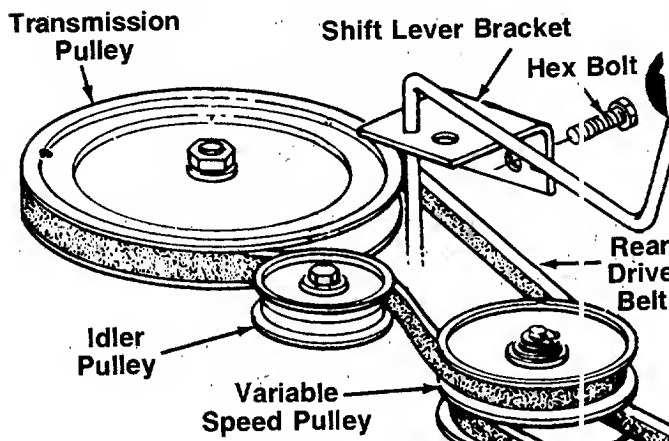

FIGURE 20.
3. Push the idler pulley toward the right side of the unit. Lift the belt over the idler pulley. See figure 20.
5. Remove the two bolts which hold the shift lever bracket to the frame on the left side of the unit. Swing the bracket toward the right so the belt can be removed from the transmission pulley. See figure 20.